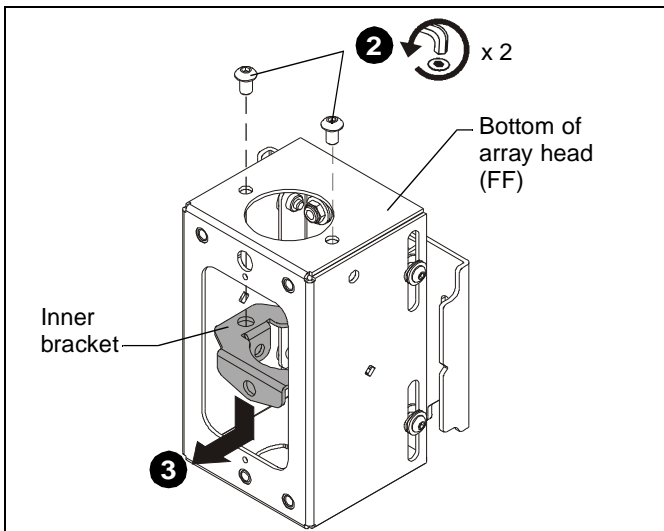

Figure 1
1. Turn the array head (FF) upside down. (See Figure 1)
2. Remove **AND SAVE** two buttonhead screws from array head. (See Figure 1)
3. Remove and discard inner bracket from array head. (See Figure 1)